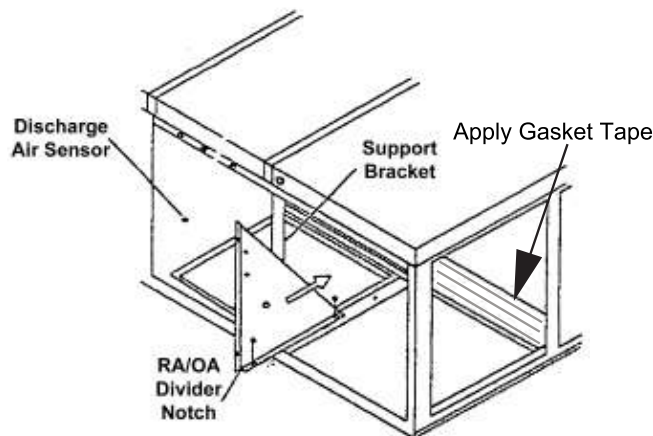

Figure 14 - Installing the divider
- e. Use two self-drilling screws to secure the OA/RA divider to the support bracket. See Figure 14.